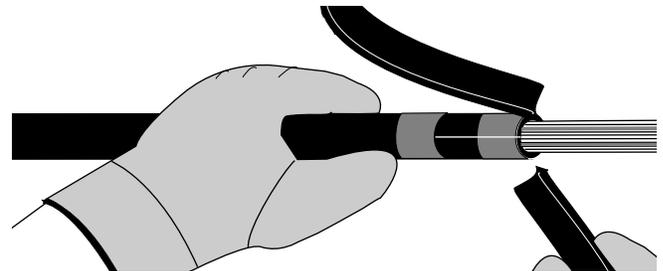

Figure 11
5.14 Break off the split sheath and armor at the Position 1 ring cut (Figure 11). Remove the tape wraps.